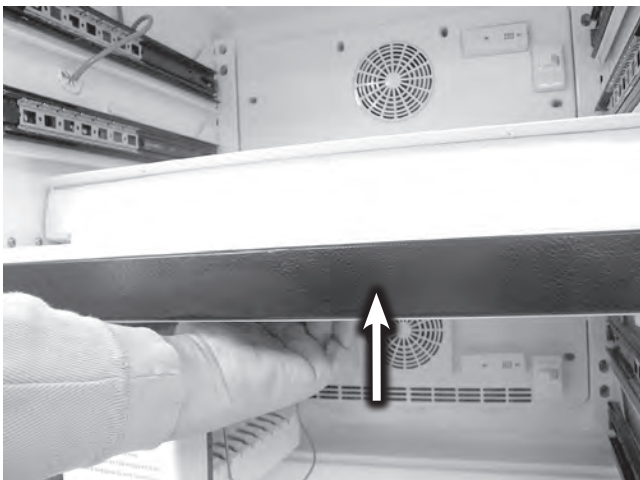

Figure 2
2. Push up on the bottom of the separator from the freezer section to free the separator from the cabinet, see figure 2.